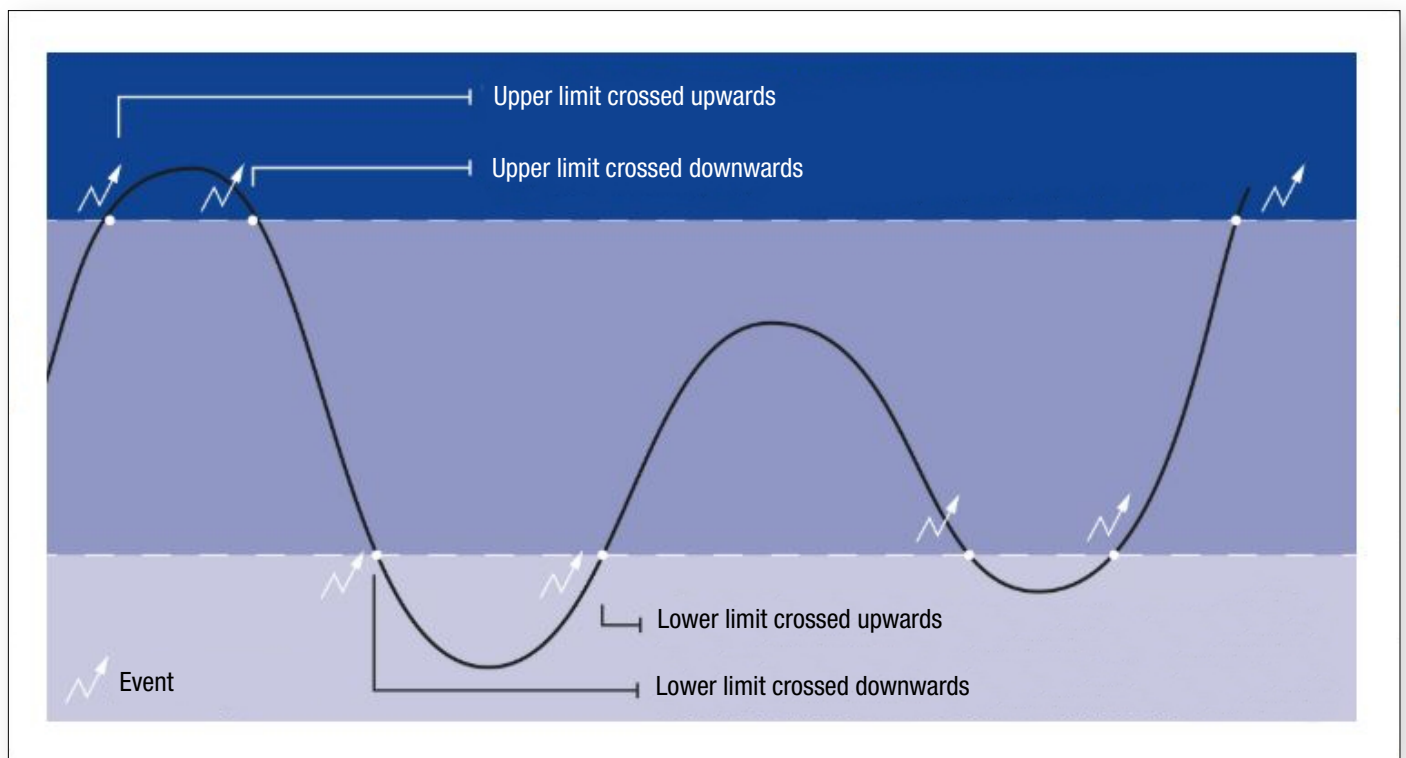

Figure 62
- 10 A graphical view of the limit definition can be viewed via the question mark. To close the window, click on the graphic again (see Figure 62).